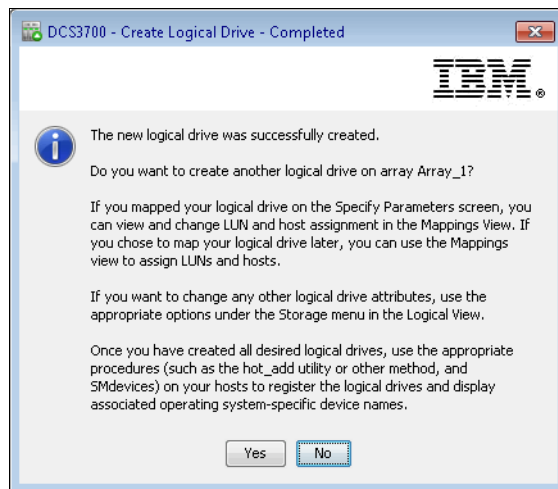

Figure 8-26 Create logical drive - Creation Successful
4. Click **Finish** and the Creation Successful window opens, as shown in Figure 8-26. You are prompted with the option to create another logical drive. Click **No** if you are finished creating logical drives or want to continue later.